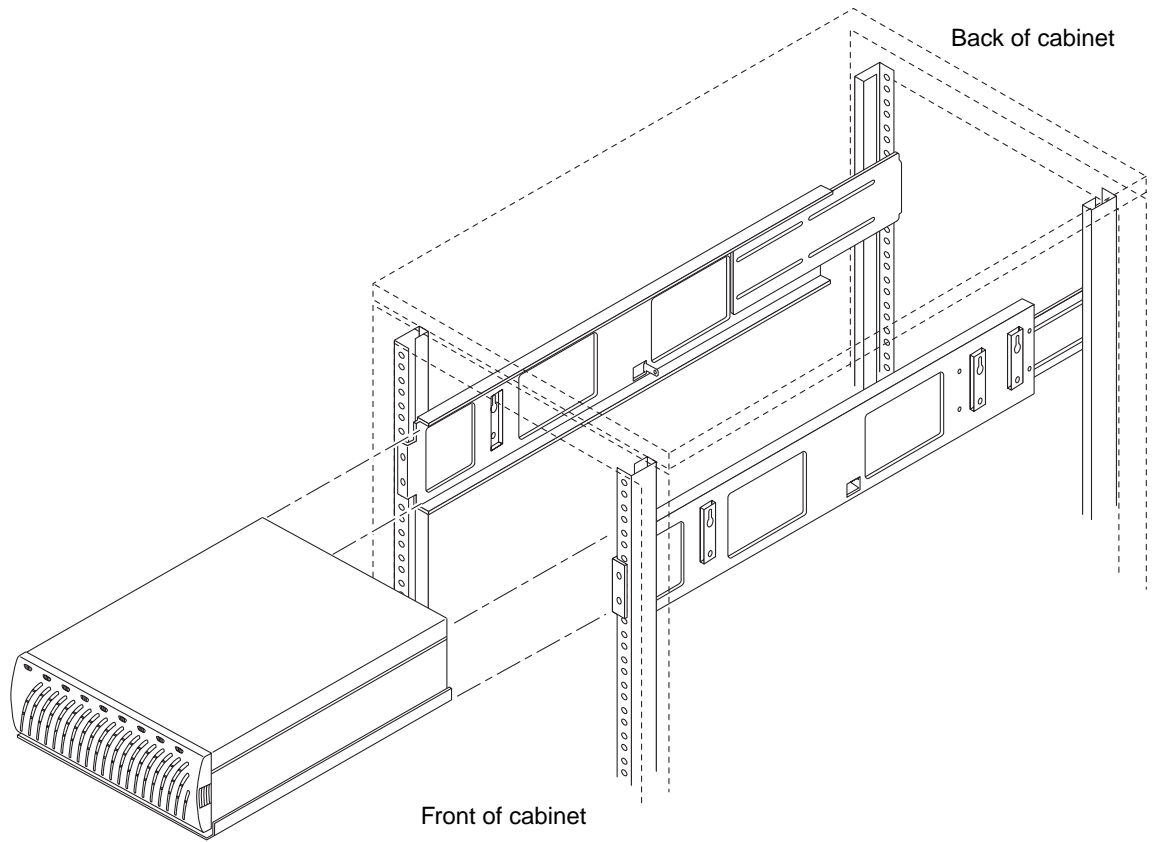

FIGURE 3-3 Aligning the Disk Tray Chassis and Support Plate With the Side Rails
2. **Align the disk tray with the side rails, and slide the disk tray in the cabinet (FIGURE 3-3).**